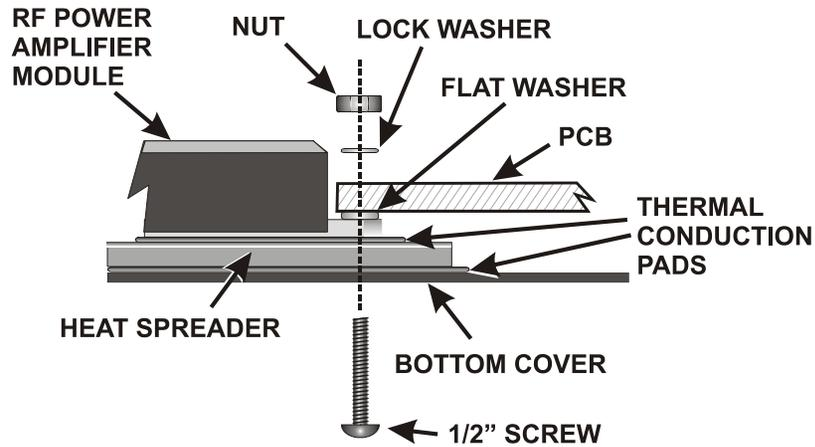

Figure 36. RF Amplifier Module Mounting Hardware.
**In the following steps you will install the hardware that attaches the RF power module to the bottom cover. Follow the steps carefully to ensure the module makes good thermal contact with the bottom cover and the leads line up properly with the RF board. The completed hardware assembly is shown in Figure 36 .**
- Inspect the RF Power module to be sure you have the module and hardware installed exactly as shown in Figure 36.